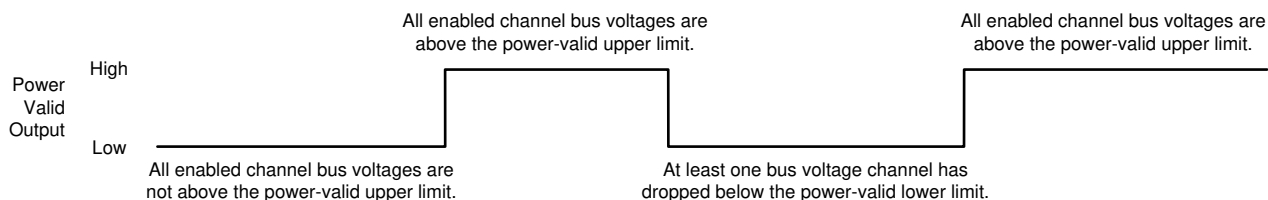

Figure 7-1. Power-Valid State Diagram
The power-valid alert verifies if all power rails are above the required levels. This feature manages power sequencing, and validates the reported measurements based on system configuration. Power-valid mode starts at power-up, and detects when each channel exceeds a 10V threshold. This 10V level is the default value programmed into the Power-Valid Upper-Limit register. This value can be reprogrammed when the INA3221-Q1 is powered up to a valid supply-voltage level of at least 2.7V. When all three bus-voltage measurements reach the programmed value loaded to the Power-Valid Upper-Limit register, the power-valid (PV) alert pin pulls high. PV powers up in a low state, and does not pull high until the power-valid conditions are met, indicating all bus-voltage rails are above the power-valid upper-limit value. This sequence is shown in Figure 7-1.